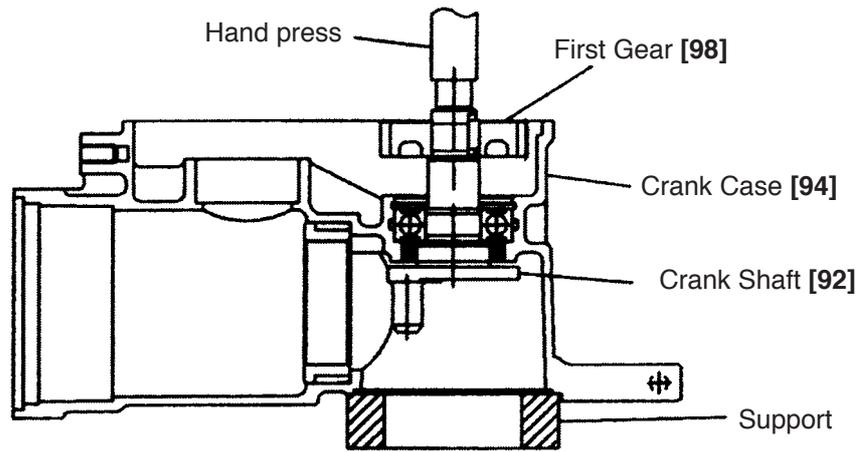

Fig. 20
(5) Removal of the First Gear [98] and the Crank Shaft [92]
Remove the Hex. Socket Hd. Bolt (W/Flange) M5 x 16 [102] and the Tapping Screw (W/Flange) D5 x 20 (Black) [103] from Handle (A). (B) Set [101] and separate Handle (A). (B) Set [101] from the Crank Case [94] and the Housing Ass'y [106]. Remove the Seal Lock Hex. Socket Hd. Bolt M6 x 45 [54] from the Crank Case [94] and separate the Crank Case [94] from the Housing Ass'y [106]. Place the Crank Case [94] on a support facing the Connecting Rod [45] downward and press the end face of the Crank Shaft [92] with a hand press to remove the Crank Shaft [92] and the First Gear [98]. (Fig. 20)